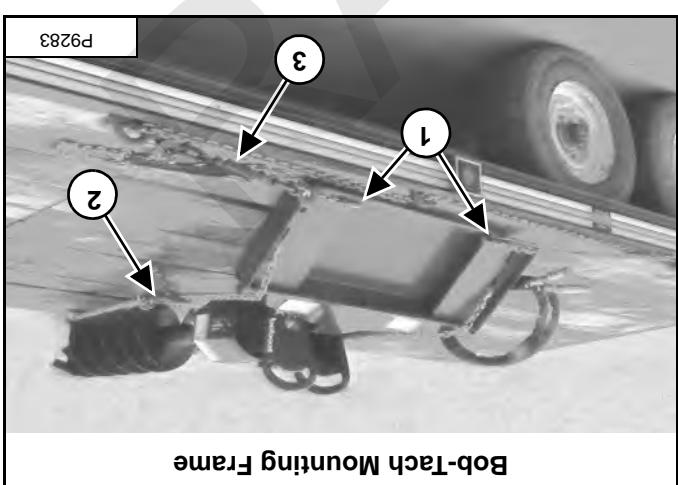

Figure 186
Wrap a chain binder (item 3) [Figure 186] to secure the direct drive auger.
When on the transport vehicle, connect chains to the Bob-Tach holes (item 1) and use a chain binder (item 3) [Figure 186] to secure the frame.